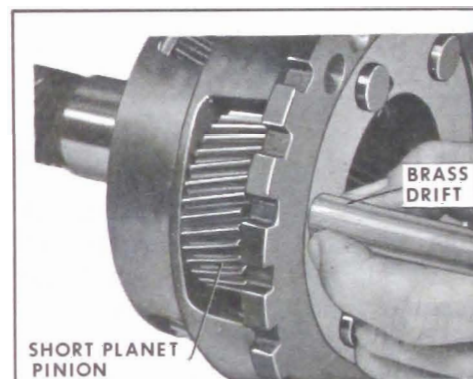

Figure 5-246
3. Start with the short planet pinion first. Insert Brass Drift into front of carrier. See Figure 5-246.